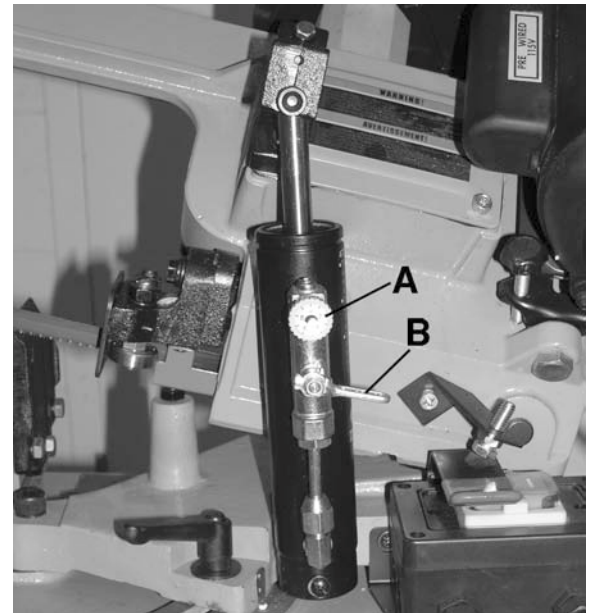

FIGURE 17
- 1) Turn the feed rate dial (A) Fig.17 clockwise until it bottoms out.
- 5) If you wish to stop and restart the down feed of the cutting head without stopping the saw, lift the hydraulic cylinder shut-off valve (B) to a horizontal position to lock the head into position and lower it again to continue the cut at the same feed rate.